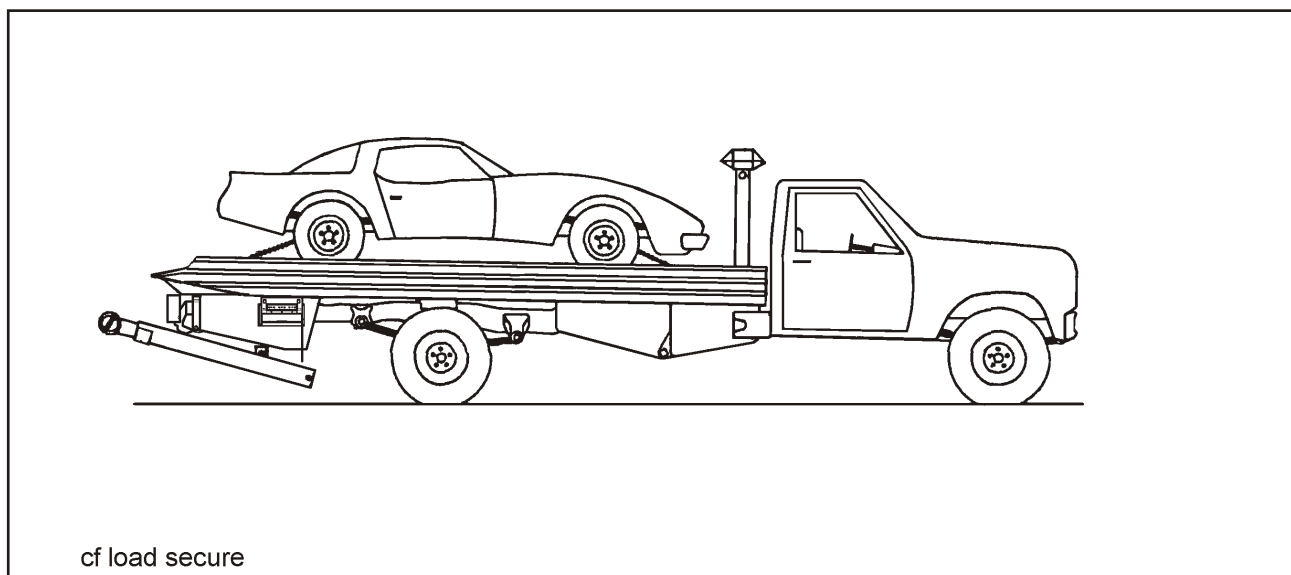

Figure 3-5 Load Secured and Ready for Transport
- 3-10.1** All vehicles, machinery, crated goods, or loose parts must be securely tied down to the bed of the Centerfold (**See Figure 3-5**). Key holes are provided in front and rear of the bed to anchor 5/16" chain. Optional bolt-on tie down hooks, side rails, and safety chains and hooks of different lengths are available and can also be used to secure loads.
- 3-10.2** The front and rear of the load must be secured to the front and to the rear of the bed. Do not rely on the winch to secure the load to the bed (**See Figure 3-5**).